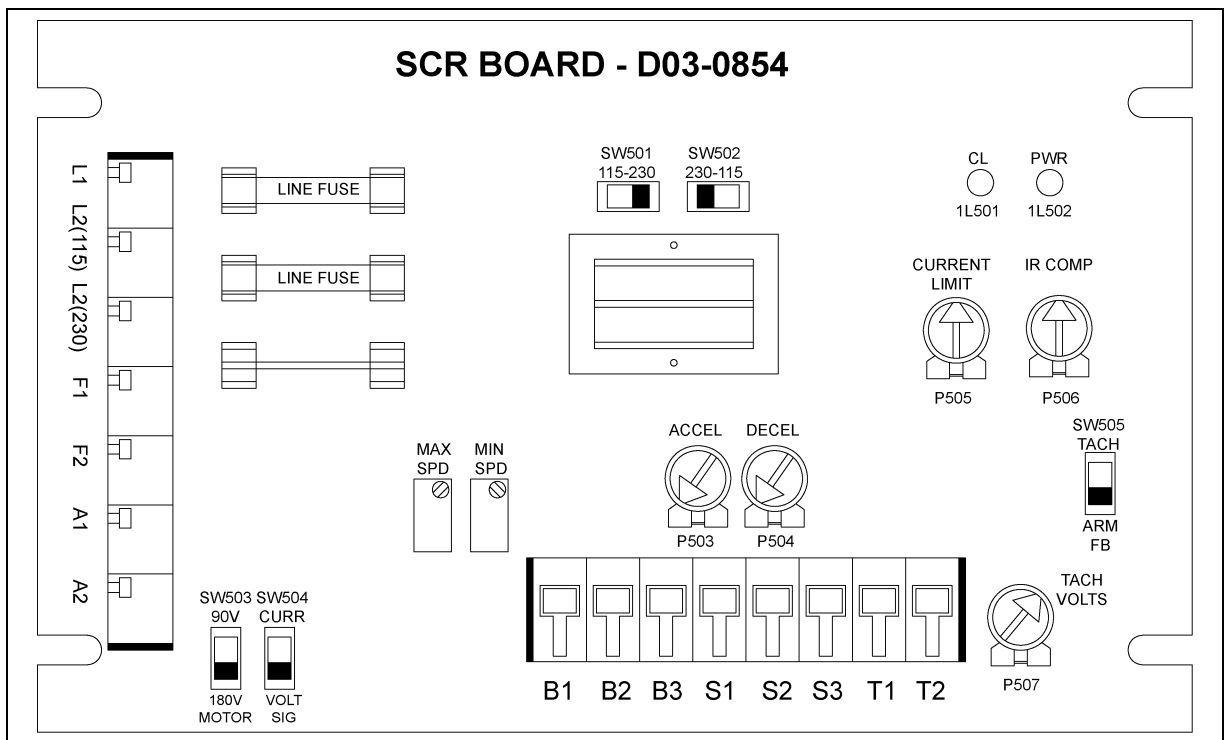

Figure 1A FFI SCR Replacement Board
2. For ease of re-connection, record the colors and terminal numbers of all wires leading to the woods board. Disconnect wiring and remove board. Mount the new SCR board in approximately the same location, oriented as shown in Figure 1A on Page 5. Note that additional holes must be drilled into the mounting surface using a 9/64" drill bit.